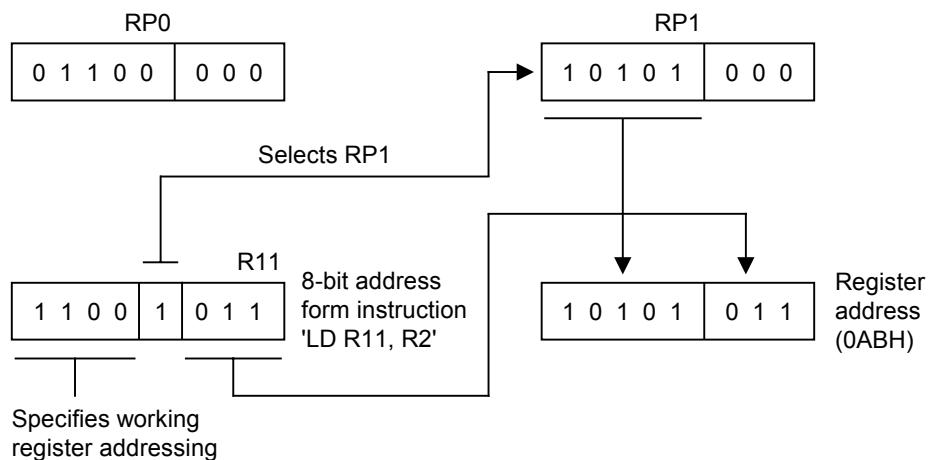

Figure 2-14. 8-Bit Working Register Addressing Example
Figure 2-14 shows an example of 8-bit working register addressing. The four high-order bits of the instruction address (1100B) specify 8-bit working register addressing. Bit 3 ("1") selects RP1 and the five high-order bits in RP1 (10101B) become the five high-order bits of the register address. The three low-order bits of the register address (011) are provided by the three low-order bits of the 8-bit instruction address. The five address bits from RP1 and the three address bits from the instruction are concatenated to form the complete register address, 0ABH (10101011B).